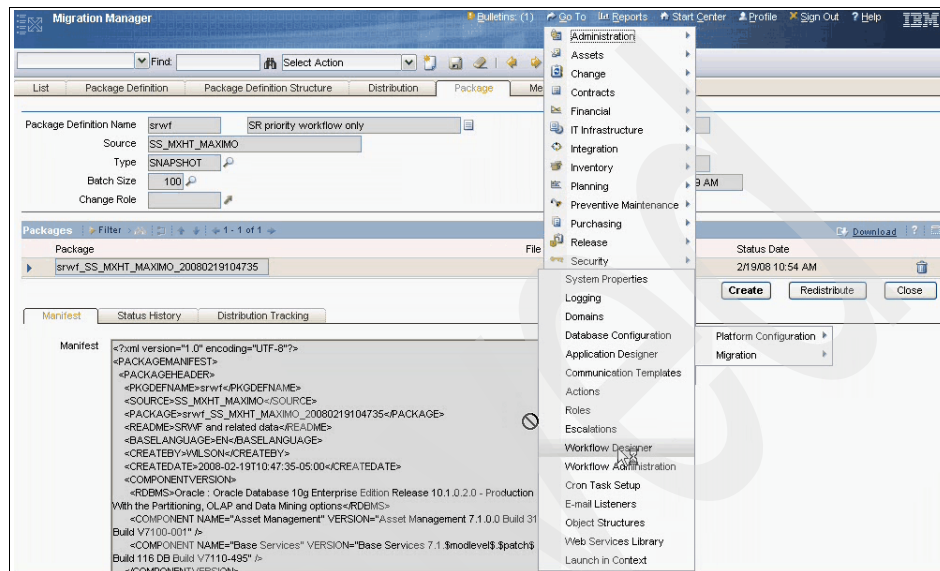

Figure 8-55 Workflow Designer
14. At this point, we can verify whether the workflow and related objects were migrated successfully. We do so by validating the workflow. From the Go To menu, select **System Configuration** → **Platform Configuration** → **Workflow Designer**, as shown in Figure 8-55.